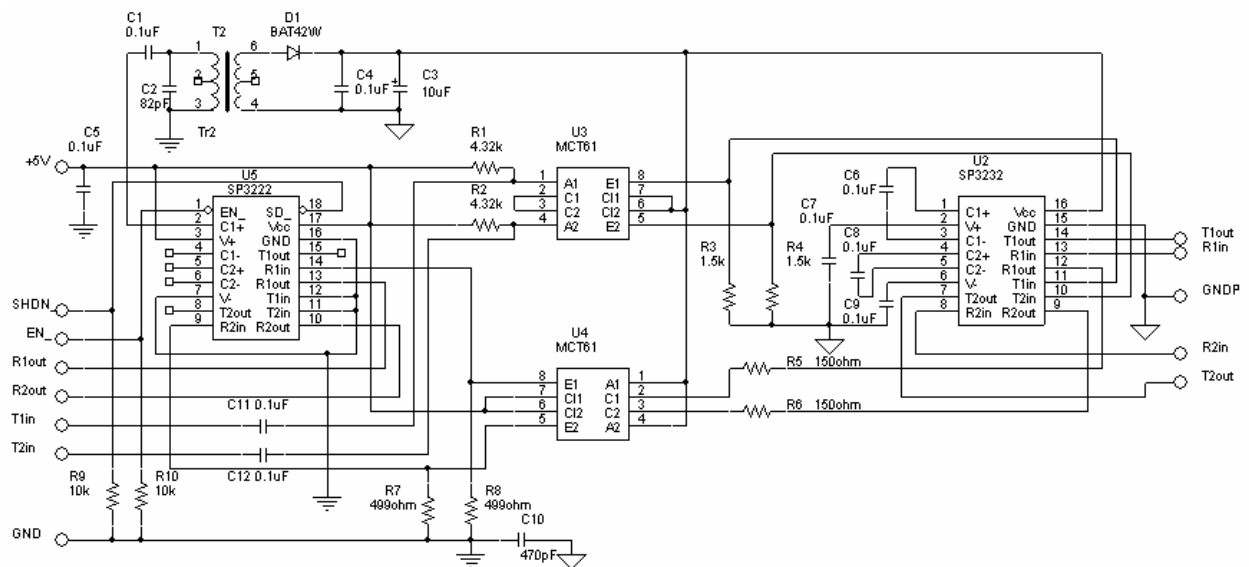

Figure 3. RS-232 interface schematic diagram for 250kbps data speed interface with additional driver/receiver tri-state enable lines
*) This device has additional driver/receiver tri-state enable lines and should be connected according schematic diagram in Figure 3.
The schematic of the interface in Figure 3 is identical to the previous example except for connection of the first driver, which has two additional inputs EN and SHDN. Logic zero at EN input puts the receiver's output into tri-state condition that allows to share the same communication lines with different receivers. Logic zero at SHDN input puts the transceiver into shutdown mode. In this mode driver, receiver, and charge pump of the first stage are turned off, which automatically turns off the secondary stage and puts its outputs into tri-state mode. To restore a normal operation both inputs should be teed to +5V.